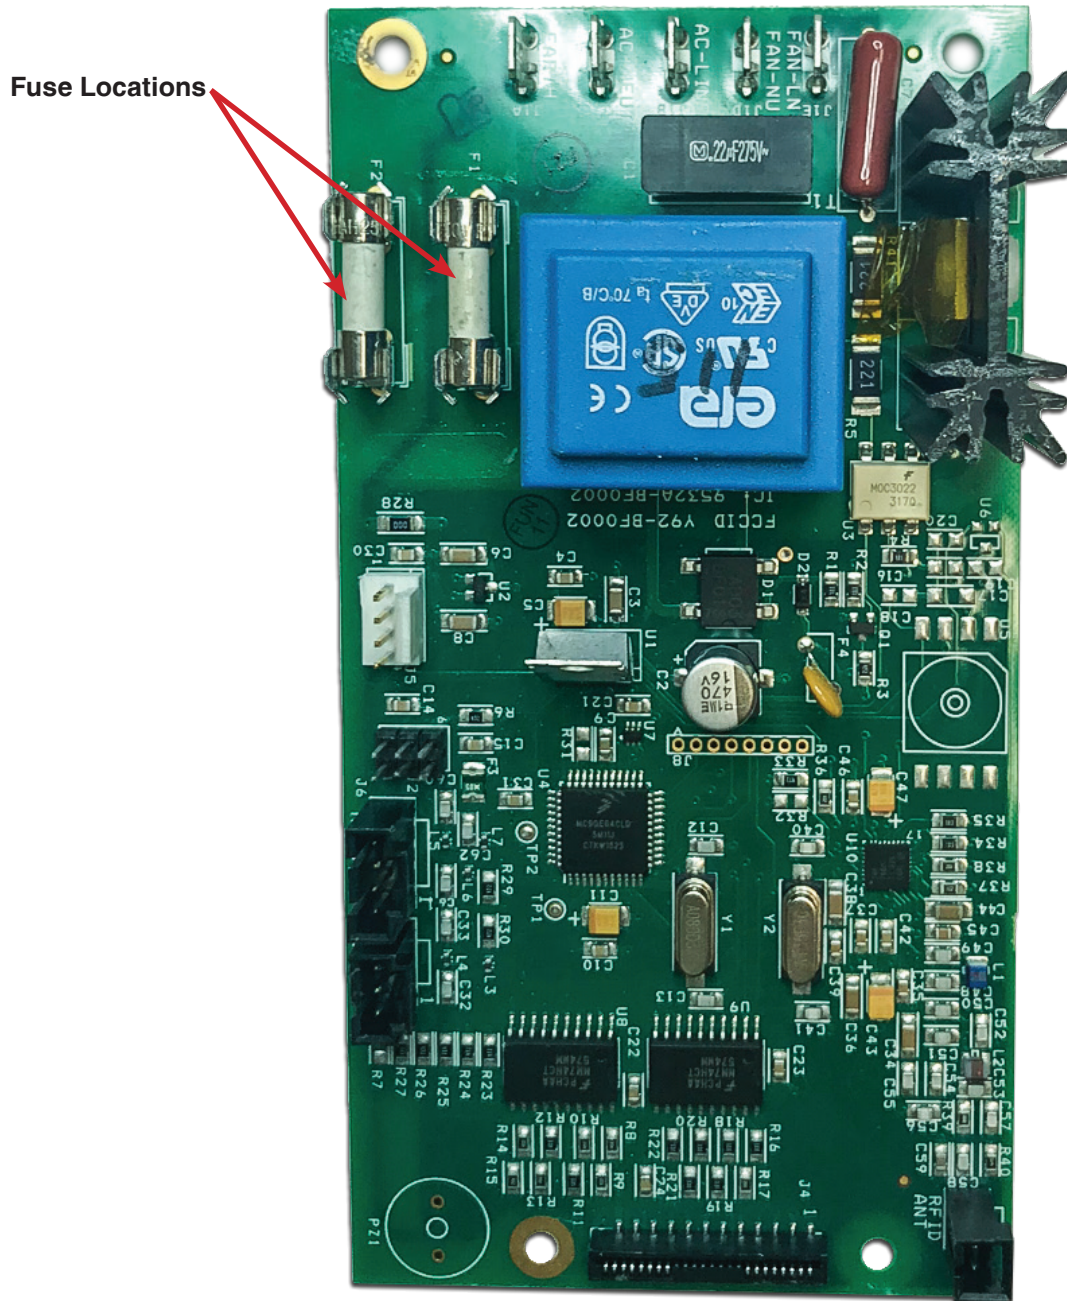

Figure 6-1
NOTE: Two (2) 10A fuses for 100/120 ViroVac® *Surgical Smoke Evacuators* or two (2) 8A fuses for 220/240 ViroVac® *Surgical Smoke Evacuators* are located on the circuit board (PCB) (**Figure 6-1**) on page 6-4 within the housing of the system. The fuses electrically protect both the ViroVac® *Surgical Smoke Evacuator* and the operator from damage or injury. If the ViroVac® *Surgical Smoke Evacuator* is overheating or if there is an electrical surge, fuse(s) will break and the ViroVac® *Surgical Smoke Evacuator* will not operate.